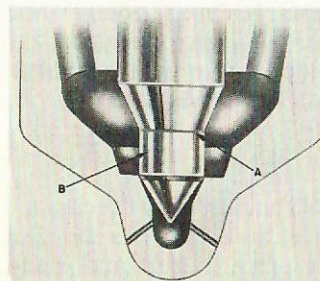

FIG. 81-1
The first step is a thorough understanding by the operator of the objective to be obtained in this nozzle reconditioning procedure. For that purpose, study carefully Fig. 81-1, which shows a sectional view of a nozzle body with its valve on the seat.
The procedure to achieve what Fig. 81-1 illustrates is as follows:
**CAUTION:** Do not lap body seat any longer than absolutely necessary. The seat should be inspected frequently with the light and magnifying glass. If no pits or grooves are noted, the body is considered ready for the next operation - that of lapping it with its valve to obtain condition shown in Fig. 81-1.
9. Since the nozzle body and its valve are now considered to be in servicable condition, they can be lapped together to obtain the line contact at the seating point similar to that in a new nozzle, Fig. 81-1.
line contact. The valve is placed in the lapping machine and a very small amount of grinding compound applied to the end of the needle valve at point "B", Fig. 81-1. Make sure that both the seat in the nozzle and the seat on the valve are dry.
Carefully slide the body of the nozzle over the valve and rotate the body a few times to distribute the compound using only very light pressure against the nozzle valve. Start the machine and work the two surfaces together by slowly rotating the body to the right using intermittent pressure against the valve. This pressure should be lightly applied at first and may be slowly increased as lapping continues. The nozzle body should be removed from the valve frequently and an examination made of the valve seat. The compound should not be allowed to spread above the line of contact at the top edge of the valve seat, point "A", Fig. 81-1. If this occurs, the relative angularity between the valve and nozzle will be destroyed and the nozzle will not operate properly. When the lapping compound shows danger of passing beyond this point, it should be removed from both the valve and nozzle seats and fresh compound applied. It is imperative that during this phase of the lapping operation, both seats be dry and clean before fresh compound is applied.
The above process should be repeated until a thin bright line of contact is obtained at the very upper edge of the valve seat as shown by the shaded area in Fig. 81-1. The ideal condition of the valve shows a blend from this shiny line of contact to a dull grey at the bottom edge of the seat. If the lapping compound is observed to spread over the whole valve seat rapidly during the lapping process, it may be due to either the compound being too damp or the difference in angle between the nozzle and valve being too
When the condition of the valve as shown in Fig. 81-1 has been obtained both the nozzle and valve seats should be cleaned, then mutton tallow or rouge dampened with fuel oil applied to the valve seat. The nozzle may then be lapped a short time with the rouge in place of compound. This operation is done to remove any particles of compound that may remain imbedded in the metal and which might cause continued lapping action during operation in the engine.